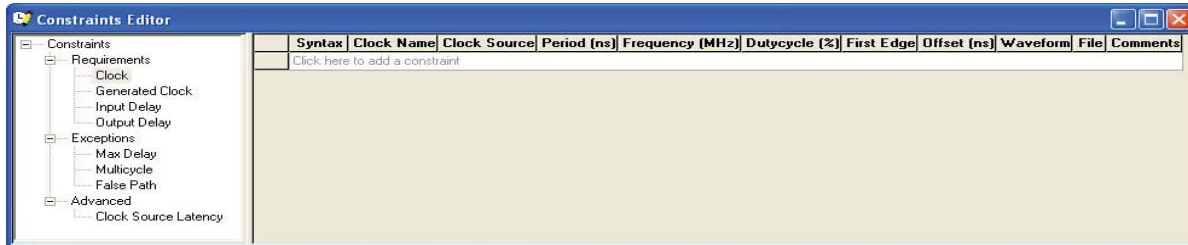

Figure 50 • SmartTime Constraints Editor
1. Open the SmartTime constraints editor by clicking the **Constraints Editor** button in the Designer GUI. The clock constraint is displayed in the SmartTime Constraints Editor, as shown in Figure 50.